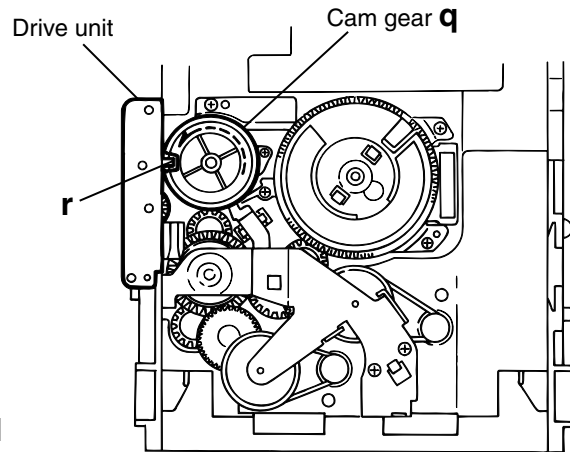

Fig.15
2. While turning the cam gear "q", align the pawl "r" position of the drive unit to the notch position(Fig.15) on the cam gear "q".